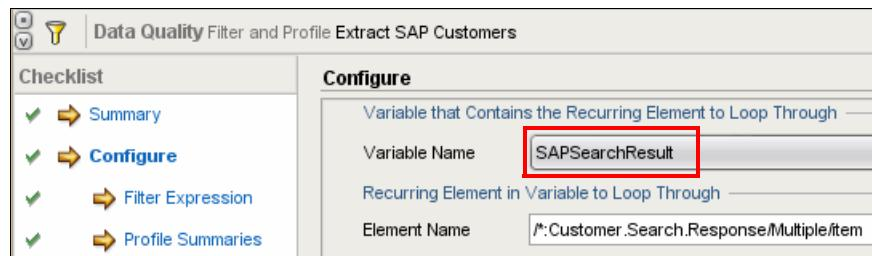

Figure 10-50 SAP filter configuration
4. In the checklist, select **Configure**. Select the SAPSearchResult variable and the item element, as shown in Figure 10-50. The XPATH is created automatically.